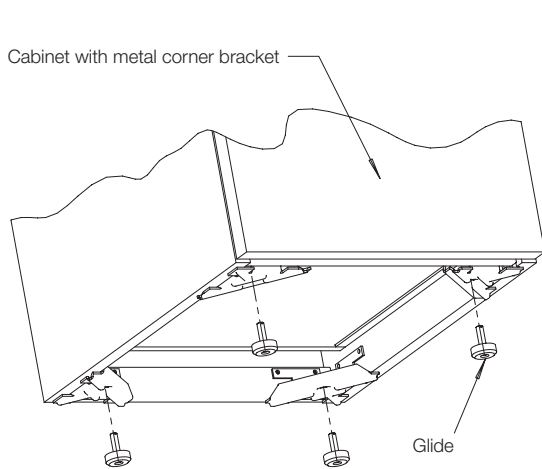

Fig 3
- 2.1. Position cabinet as required then remove all glides. (Fig. 3)